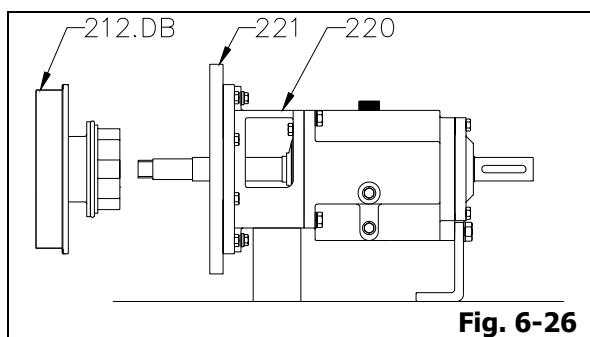

Fig. 6-26
- Remove all stuffing box cover bolts (where applicable). Lift off stuffing box cover (212.DB) assembly from frame adaptor (220) or adaptor extension ring (221) (Fig. 6-26).